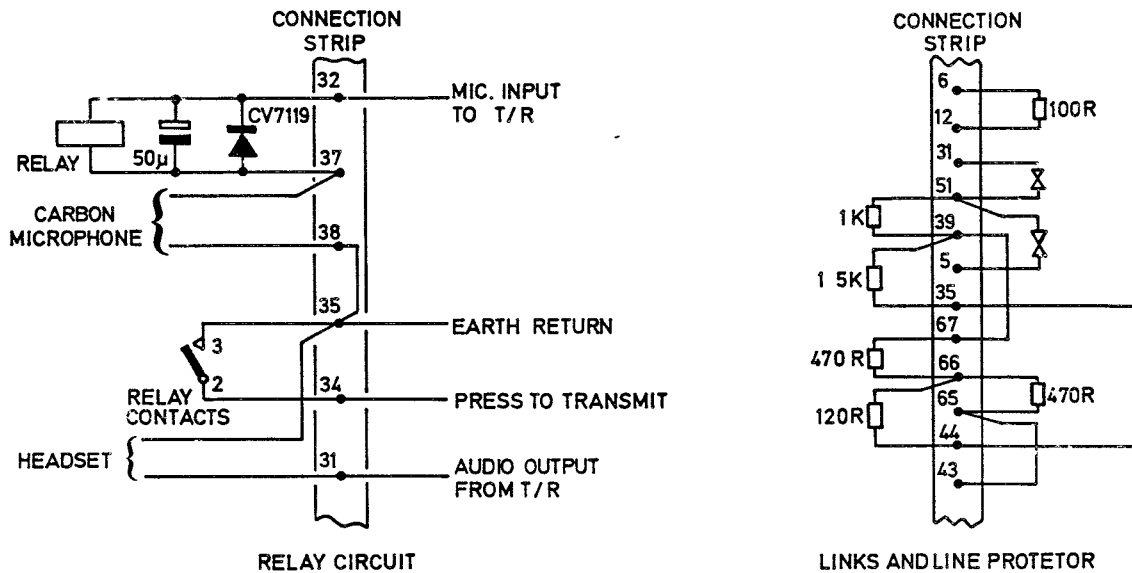

Fig 5 Mounting shelf : connection strip
12.3 The relay is located at the rear of the shelf, adjacent to the connection strip (para.12.2) and operates in conjunction with a carbon microphone to complete the transmission circuits, a simplified circuit diagram is shown in Fig 5. When the carbon microphone is operated, the microphone energizing current from the transmitter-receiver causes the relay to operate, closing the relay contacts which complete the earth return for the transmit relays in the transmitter-receiver. A capacitor and a diode are connected in parallel across the relay coil, the capacitor providing a low impedance path for af currents and the diode protecting the capacitor against damage by the induced voltage surge in the relay coil when it is de-energized.